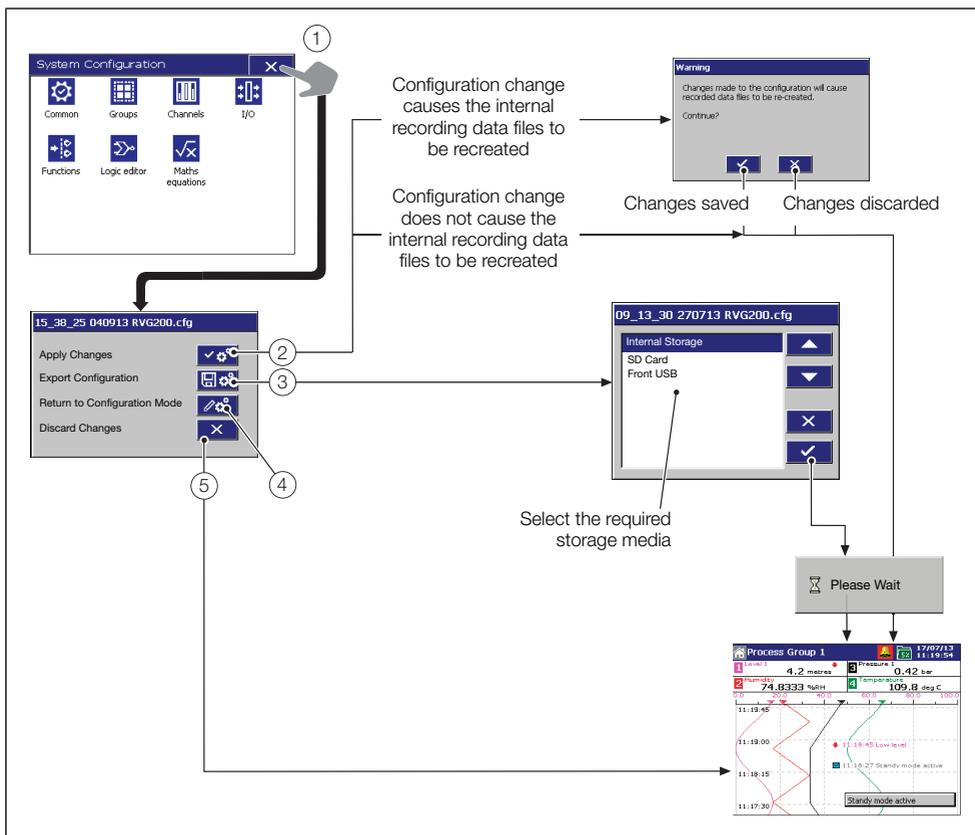

Fig. 8.7 Exiting configuration mode
Referring to Fig. 8.7, exit the **Configuration** level as follows:
- Changes to the date and time are effective immediately  in the dialog box is touched. Touch  in the dialog box to exit date and time setup without saving changes. Touching  when exiting the **Configuration** level (see Fig. 8.7, page 68) **does not** reset the clock to its previous setting.
Note. Changes to daylight saving are effective immediately a method is selected. However, if  is touched when exiting the **Configuration** level (see Fig. 8.7, page 68), the last saved daylight saving settings are restored.